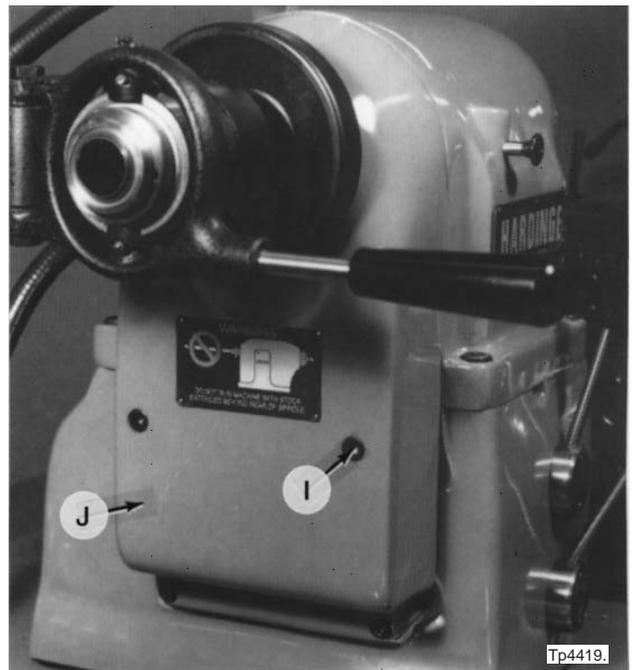

Figure 3.13 - Headstock Cover
25. Remove four screws "I" and cover "J", Figure 3.13.
49. Replace cover "J" and four screws "I", Figure 3.13.